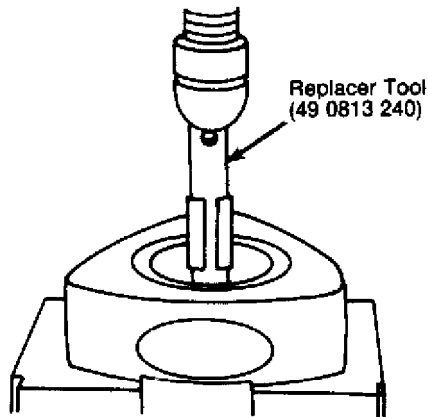

Fig. 13: Pressing Rotor Bearing from Rotor
2) Place rotor on support with internal gear facing upward. Place a new rotor bearing so slot in rotor bore is in line with bearing lug. Press new bearing (using tool with adapter) until bearing is flush with rotor boss. See Fig. 13.